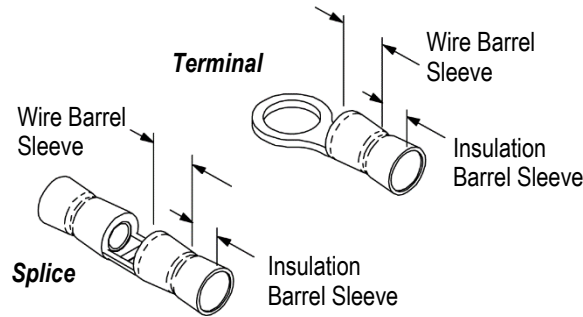

Figure 5
*The wire barrel sleeve on high-temperature terminals and splices is color-coded orange. Heat-resistant terminals and splices are not color-coded. Refer to Figure 5.*